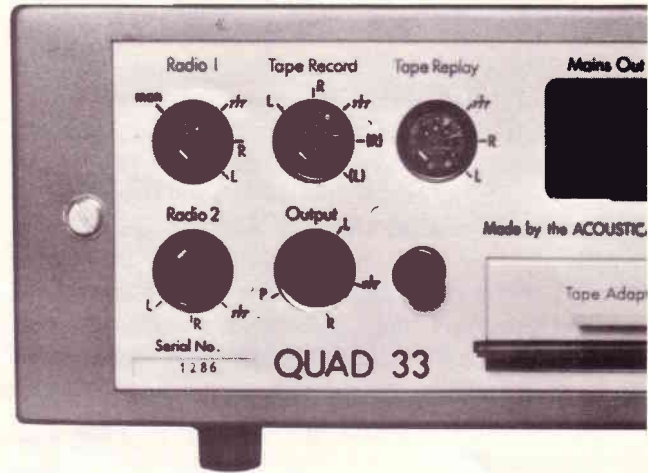

FIG. 7
### Radio (See Fig. 7)
Normally either one or both tape sockets may be used for recording and replay as convenient the (L) and (R) pins (See Fig. 7) of the record socket being linked inside